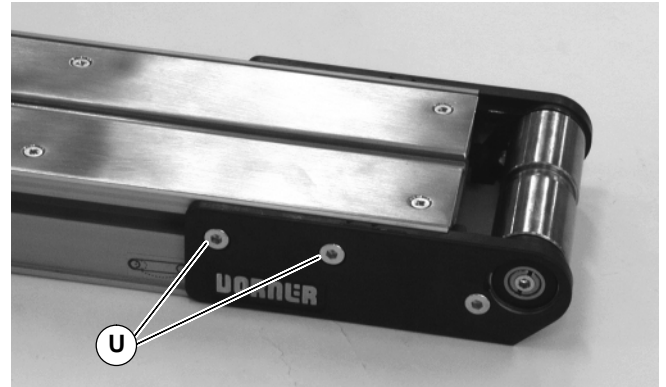

Figure 54
2. Install pulley assembly on conveyor. On both sides of conveyor, hand tighten fastening screws (U of Figure 54).